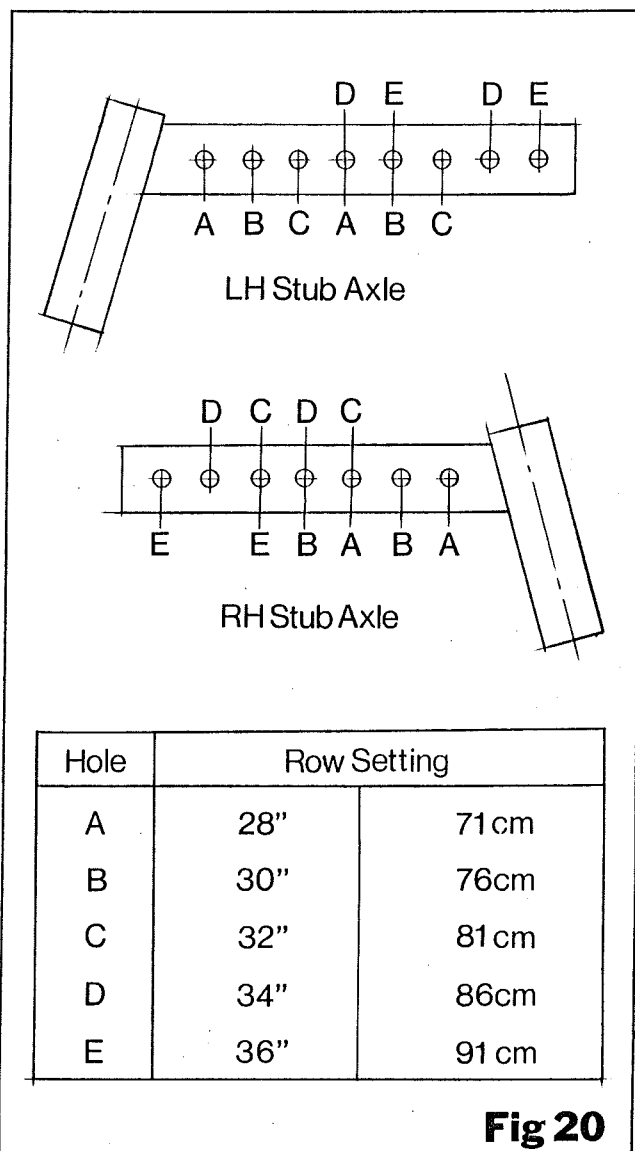

Fig 20
5. Slide stub axles to required position (see fig 20).
6. Reposition all bolts in correct holes (see fig 20) and retighten.